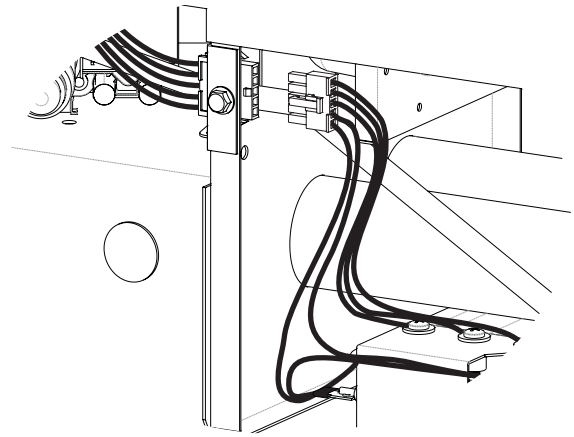

Figure 11
14. Plug the connector from the heated tray's wire harness into the connector on the relay's wire harness. **See Figure 11.**